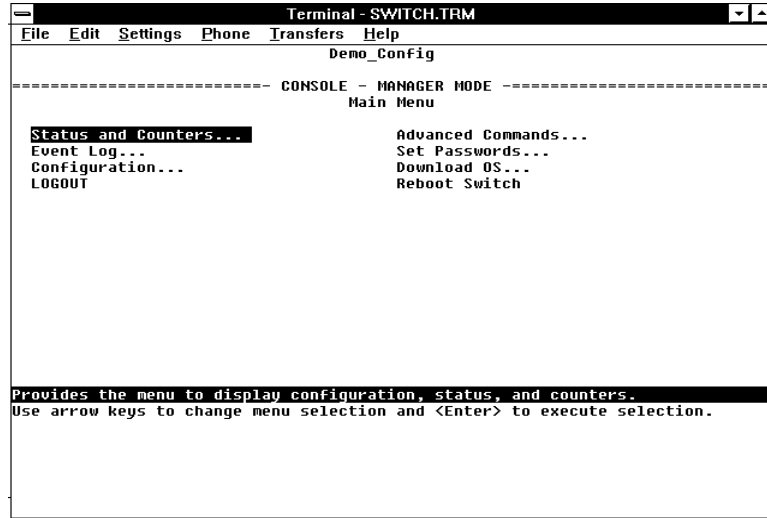

Figure 2-1. The Main Menu
- If a password has been set, the Password prompt appears. Type the password and press to display the Main Menu (figure 2-1).
Press to display the Main Menu (figure 2-1).
The Main Menu (figure 2-1 on page 2-3) gives you access to these console interface features: